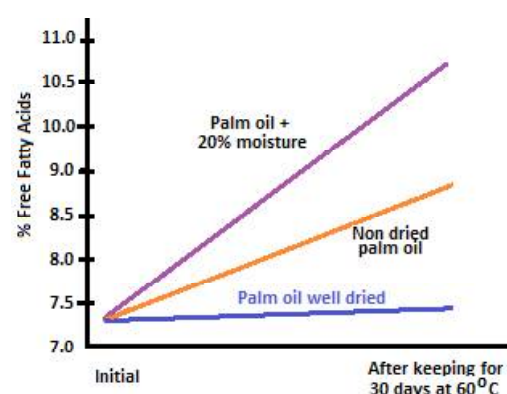

Figure 9 Effect of temperatures and length of storage on FFA
- FFA vs time (days) graph serves to demonstrate this point. FFA increases more rapidly if stored at 60°C compared to at 50°C over a period of 25 days (Figure 9). It has been shown that DOBI will also deteriorate if stored at higher temperatures.